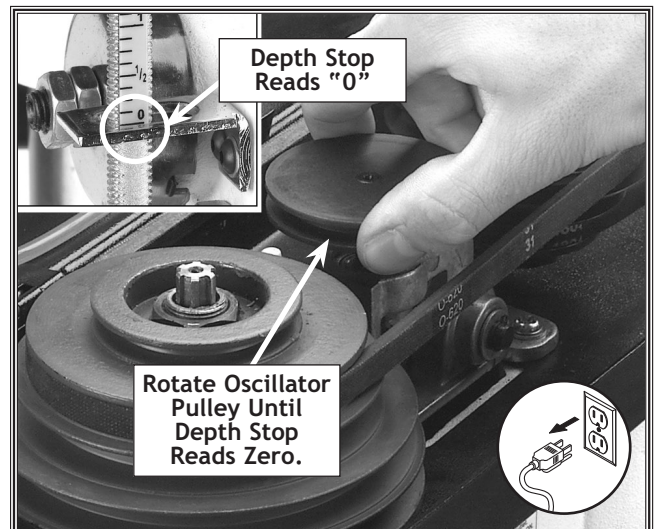

Figure 25. Fully seating quill shaft.
3. Rotate the oscillator pulley so the depth stop reads "0" and the quill shaft is completely seated, as shown in **Figure 25**.